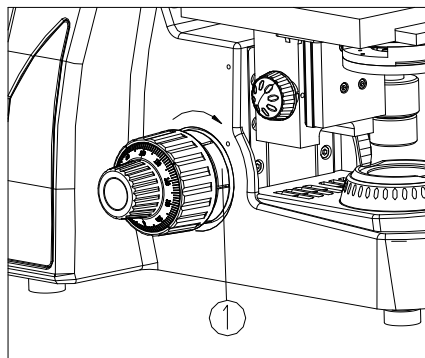

Fig.10
If the handle is very heavy when focusing or the specimen leaves the focus plane after focusing or the stage declines itself, please adjust the tension adjustment ring① (see Fig. 10).